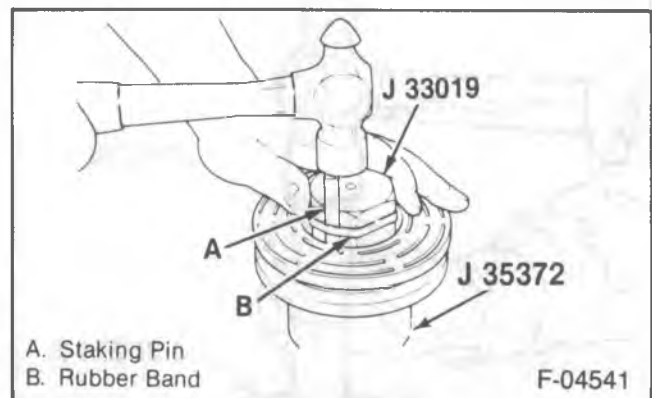

Figure 31—Bearing Staking
Install or Connect (Figures 31, 32 and 33)
2. Bearing into the hub bore using J 9481-A and J 29886 (figure 31).
3. Stake the bearing using J 33019 at 120 degree intervals (figure 31).